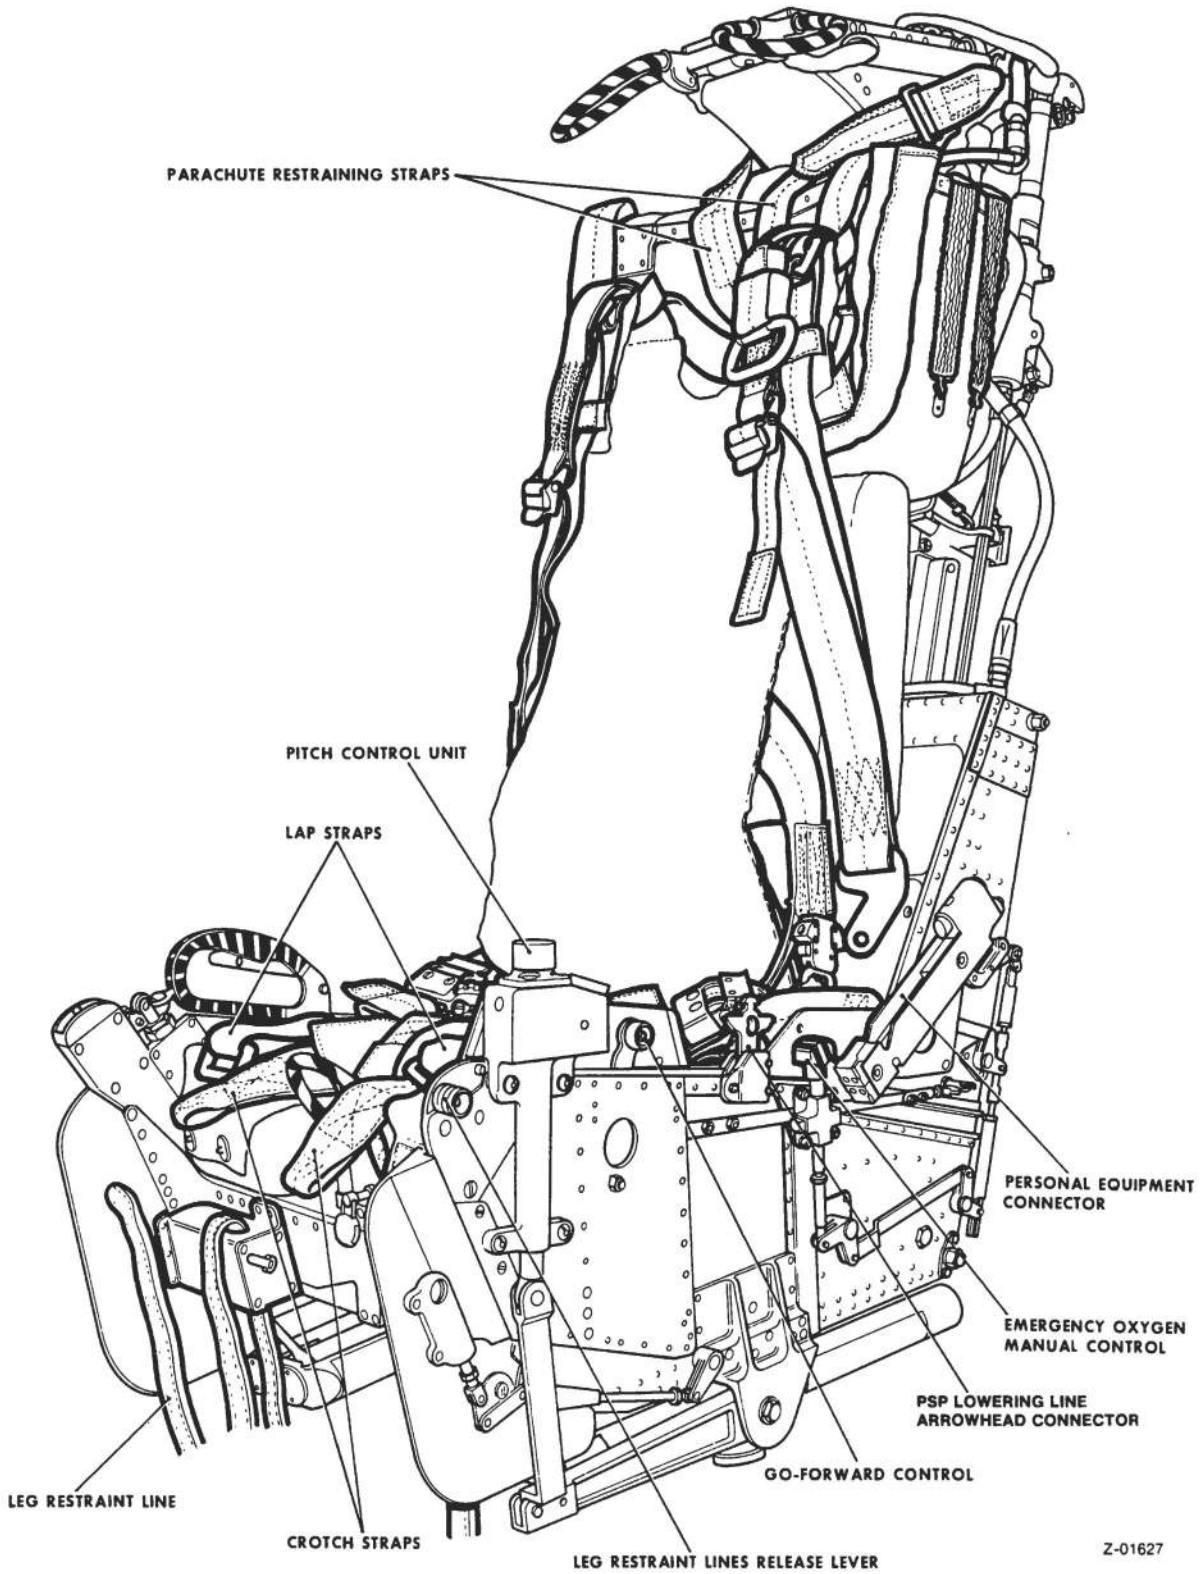

Fig 1 The seat equipped - left hand view
2 The Type 7A1 and 7A2 Mk 3 ejection seats (fig 1 and 2) are fitted to the front and rear positions respectively in the Phantom FGR Mk 2 aircraft. Modifications ES 3695, PA 536 and SE 95 introduced a new negative-g strap with a quick-release fitting, a combined seat/parachute harness and a single-handed release personal survival pack (PSP) Type ZD Mk 3. Modification ES 7076 introduced an anchor bracket on the right hand side of the seat pan to facilitate attachment of the static line of the PSP automatic deployment unit (ADU), a component part of the PSP Type ZD Mk 4 introduced by modification SE 161. This publication is primarily concerned with the installation of the aircrew equipment assembly (AEA) in the seat, the strapping-in procedure and the drill to be used when leaving the seat after landing. A brief description of the various components of the AEA and their functions is included.
►24 The following procedure shall be used when installing the equipment in the seat, refer to fig 1 to 15 as necessary: